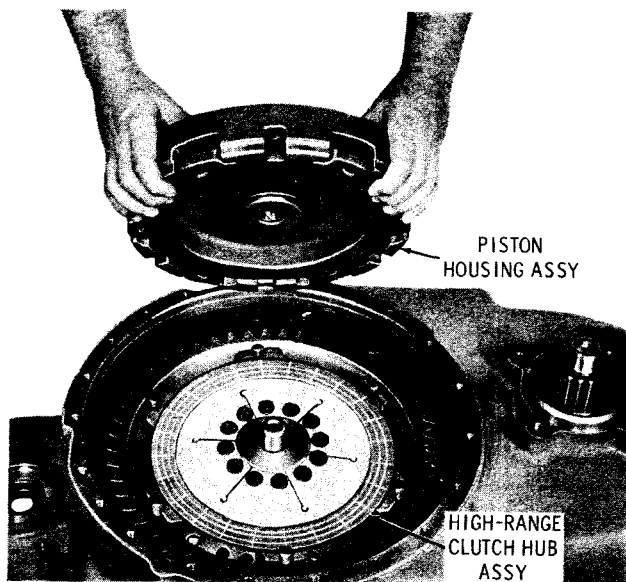

Fig. 7-28. Installing high-range clutch piston housing assembly
(1) Install the high-range clutch piston housing and attached parts (as assembled in para 6-11) onto the transfer drive gear (fig. 7-28). During installation, align and engage the recesses in the piston with the drive pins in the transfer drive gear.